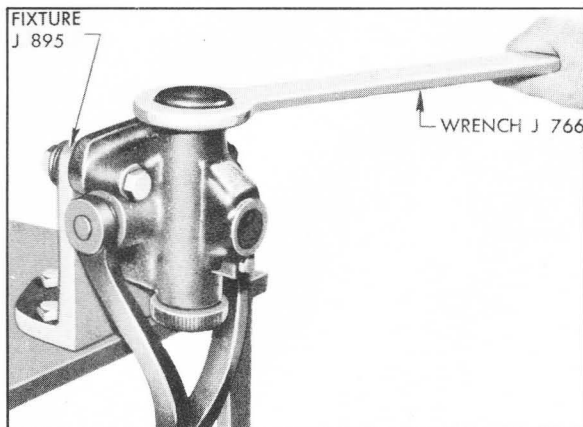

Figure 6-30—Removing Front Shock Absorber End Cap
2. Remove end cap, using End Cap Wrench J 766. See figure 6-30. *Do not use a pipe wrench as this will ruin the cap.*